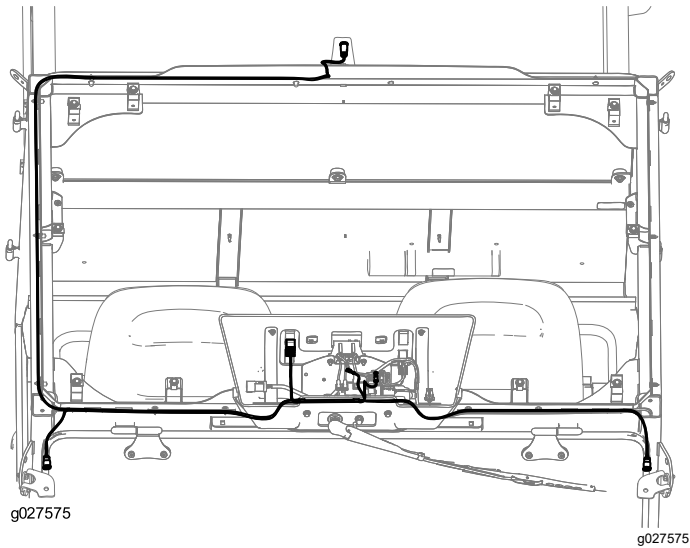

Figure 9
1. Install the wire harness as shown in Figure 9.